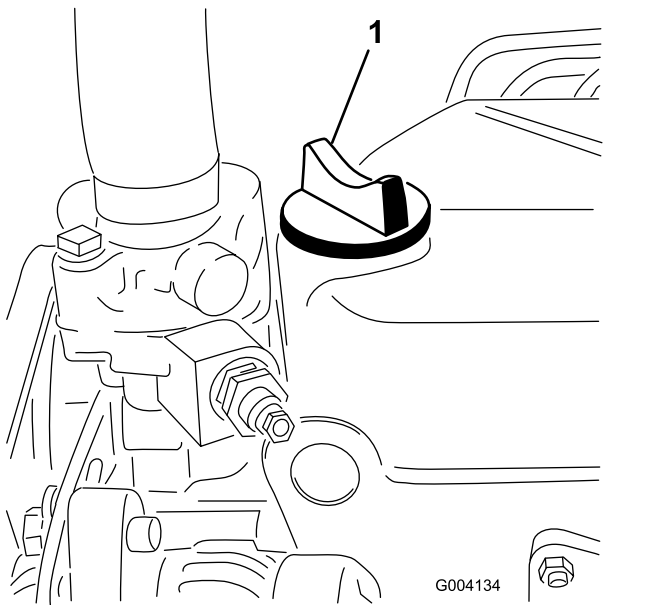

Figure 30
5. If the oil level is below the Full mark, remove the fill cap (Figure 30), and add oil until the level reaches the Full mark on dipstick.